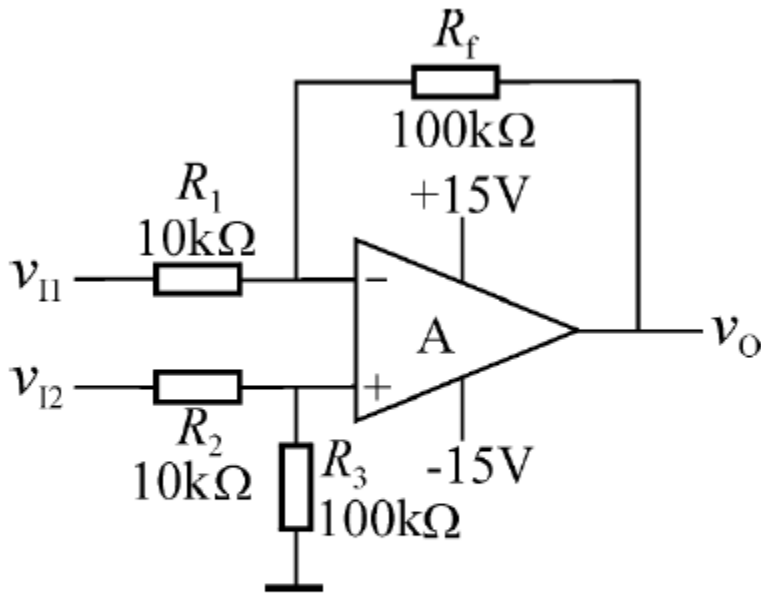

Figure 2 Difference amplifier
1. Figure 2 shows the circuit of a difference amplifier. Calculate the relationship between the output voltage (V_o) and the input voltage (V_{I1} and V_{I2}).
1. Fig. 2 –step 3 with grounded input.
2. Fig. 2 –step 4 with sine wave input